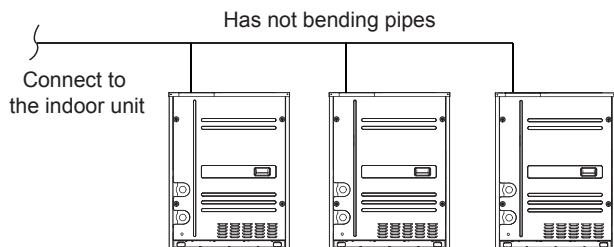
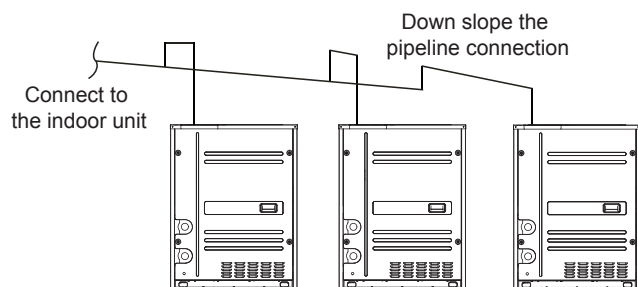

Fig.6-9
Fig.6-10
- 2) All connective pipes between the main units are not allowed to over than the height of every outlets of the pipes (Refer to Fig.6-9, Fig.6-10).